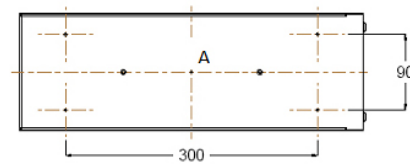
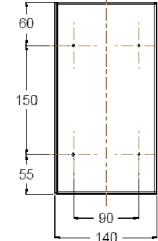

Figure 1a
Figure 1c
4. Determine the mounting configuration and position, ie: ceiling, wall or cantilever mounting. Drill 4 x 9mm diameter mounting holes at the positions as shown in figure 1a, 1b or 1c depending on mounting configuration. All drilling locations for mounting holes are indicated on the metal housing by dimple features. Cable entry hole for wall mounting must be drilled through the polycarbonate panel and cantilever mounting is drilled to suit anywhere on the face (figure 1c), cable entry hole for ceiling mount must be drilled at the dimple at the centre of the top face, marked A as shown in figure 1a. Due to the wide variety of building construction materials, mounting screws are not provided with the fitting. Use appropriate hardware to suit the individual installation and structural support needs of the fitting. Remove the terminal block cover from the terminal block before mounting the housing to the wall or ceiling.